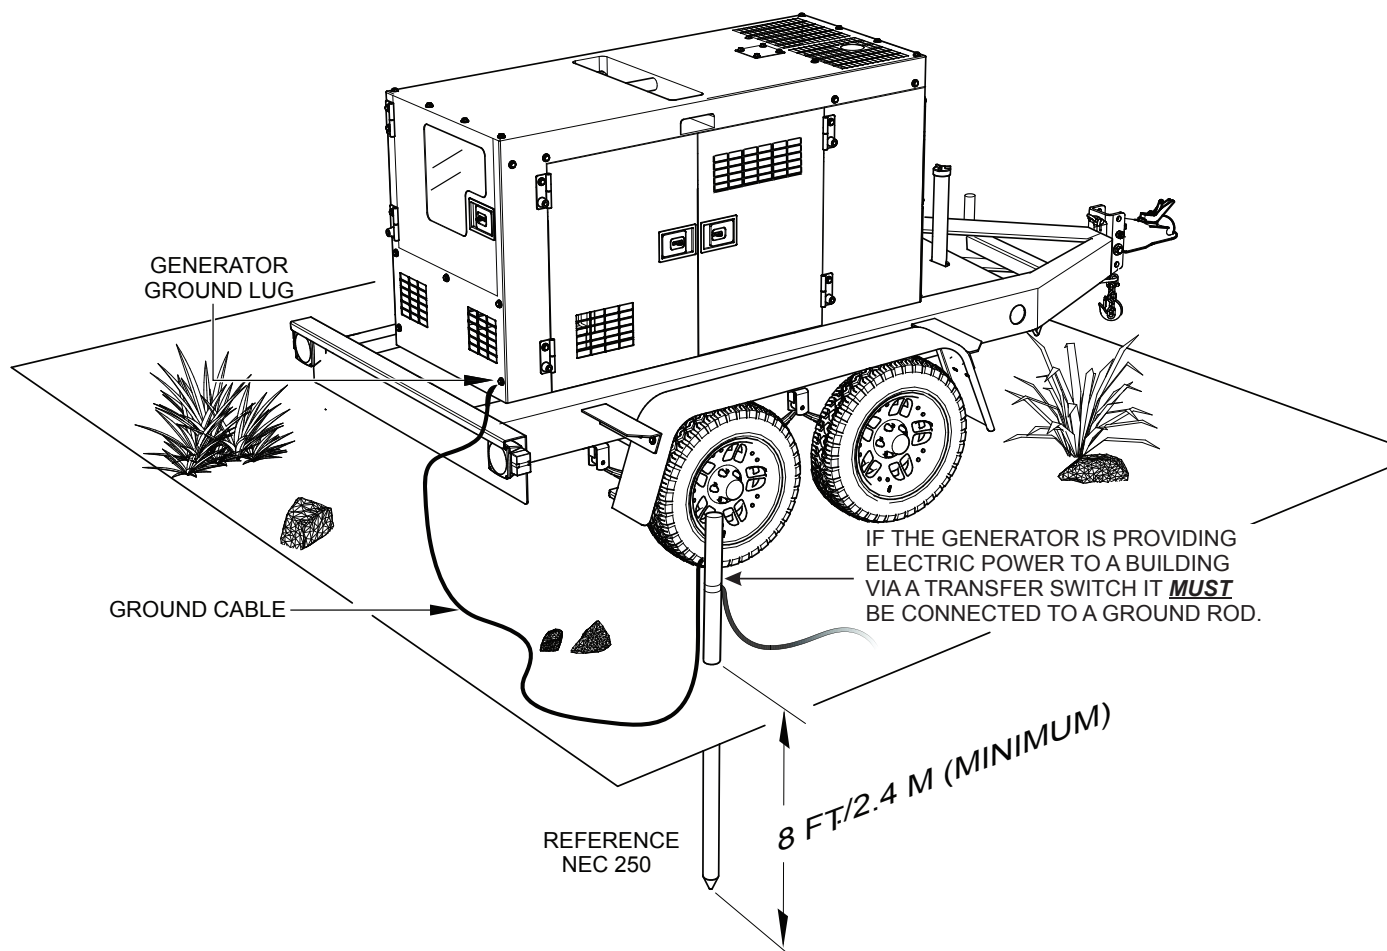

Figure 3. Typical Generator Grounding Application
Connect one end of the ground cable terminal to the generator ground point (Figure 3). Connect the other end of the ground cable to a suitable earth ground (ground rod)
The Occupational Safety and Health Administration (OSHA) and the National Electrical Code (NEC) recommend that if the generator is providing electrical power to a structure (home, office shop, trailer or similar) it **must** be connected to a grounding electrode system, such as driven ground rod (Figure 3).
If applicable, to guard against electrical shock and possible damage to the equipment, it is important to provide a good **EARTH** ground, (Figure 3).
2. When grounding of the generator (Figure 3) is required, connect one end of the ground cable to the ground lug on the generator. Connect the other end of the ground cable to the ground rod (earth ground).